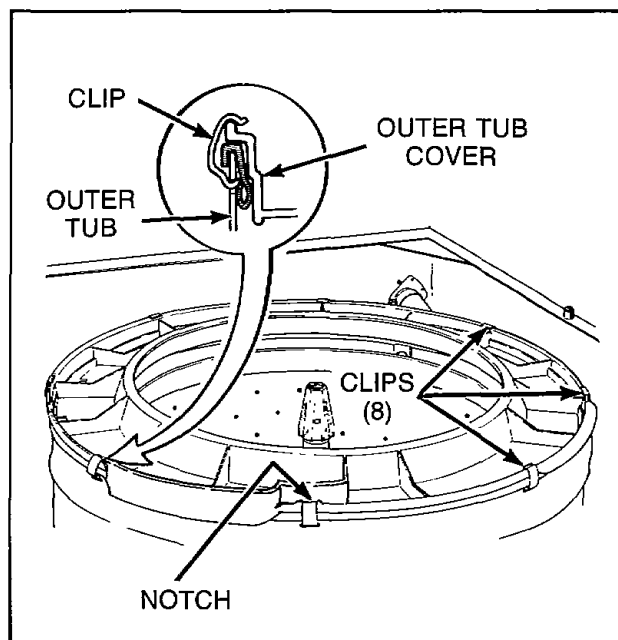

Figure 26
- d. Remove the eight clips holding outer tub cover to tub, *Figure 26*, and lift cover off tub.
**NOTE:** When installing outer tub cover, always use a new cover gasket. Lubricate the gasket with rubber lube or liquid soap to aid in assembly. Cover must be placed on outer tub so notch on top edge of outer tub cover is directly over left front clip hole in tub, *Figure 26*. Starting with this hole, place each spring clip in its respective hole and snap in place. See *Figure 26* for proper clip installation.
- d. Disconnect filler hose from backflow preventer, then remove the eight clips holding cover to outer tub, *Figure 26*.
**NOTE:** When installing outer tub cover, lubricate the cover gasket with liquid soap to aid assembly. Cover must be placed on outer tub so notch on top edge of outer tub cover is directly over left front clip hole in tub, *Figure 26*. Starting with this hole, place each spring clip in its respective hole and snap into place.
- d. Loosen hose clamp and disconnect filler hose from backflow preventer, then remove the eight clips holding cover to the outer tub, *Figure 26*.
**NOTE:** When installing outer tub cover, always use a new cover gasket. Lubricate the gasket with liquid soap to aid in assembly. Cover must be placed on outer tub so notch on top edge of outer tub cover is directly over left front clip hole in tub, *Figure 26*. Starting with this hole, place each spring clip in its respective hole and snap in place. See *Figure 26* for proper clip installation.